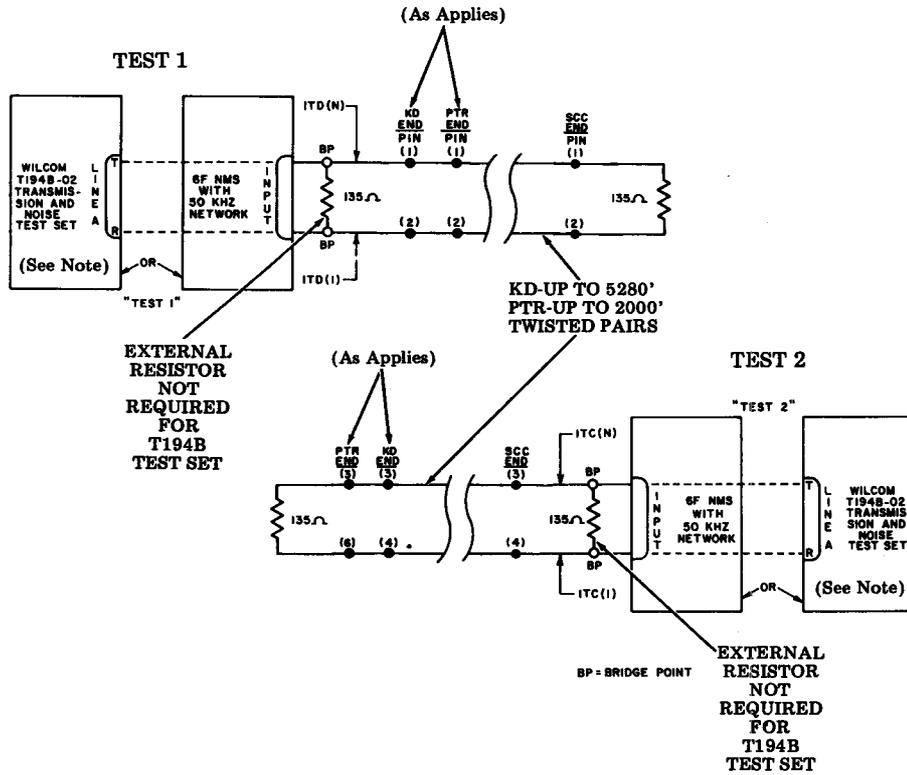

Fig. 19—Noise Measurements
3.26 The Background Noise Tests require either a WILCOM Transmission and Noise Test Set or a 6F Voiceband Noise Measuring set and one or two 135 ohm resistors. Connect the test set as shown in "Test 1" of Fig. 19. Perform the tests in Table F. The cable passes the Background Noise Level Tests if the readings are lower than 45 dBrn.
(1) Set FUNCTION switch to SEND B/REC A position (however, sending on B is not intended). (2) Set WEIGHTING switch to 50KHz position. (3) Set RECEIVE IMPEDANCE switch to 135 position. (4) Set BRDG/TERM switch to TERM position. (5) Set 1004 Hz notch switch to OUT position. (6) Set NORMAL/DAMP switch to NORMAL position. (Exception: Under severely fluctuating noise condition, set to DAMP.) (7) Turn down send level (to avoid false reading) then adjust RECEIVE LEVEL switches for a meter reading near 0 dB on the scale. (Level may be so low that switch adjustments cannot permit an on-scale meter reading.) (8) Read the background noise level by adding the RECEIVE LEVEL Switch settings (using the inner (black) scale) and the meter reading. (9) Connect the test set as shown in "TEST 2" of Fig. 19. Again perform Steps 1a(7) and 1a(8).
(1) Set the Counter Separation switch to the 2 dB position. (2) Set the Function switch to CAL-CTR-BAT and turn the power switch on. (3) Verify that the meter indicates in the BAT GOOD area. Replace batteries that do not have good indication. (4) Adjust the Counter 1 CAL control until the associated counter just counts (the count will be erratic when properly adjusted). (5) Adjust the Counter 2, 3, and 4 controls by depressing the associated push button switch and adjusting the CAL control until the counter just counts as in Step 1b(4). During calibration, only one counter will operate at a time. (6) Set the FUNCTION switch to CAL-MTR and adjust the meter CAL control for a meter indication at the CAL marking. (7) Set the function switch to 600 ohm bridging. Adjust the dBrn dial to obtain a meter reading in the upper half of the meter scale. (8) The background noise level is the sum of the dBrn dial setting and the meter reading. (9) Connect the test set as shown in "Test 2" of Fig. 19. Again perform Steps 1b(7) and 1b(8).
3.27 The Impulse Noise Tests require either a WILCOM T194B Transmission and Noise Test or a 6F Voiceband Noise Measuring Set, and one or two 135 ohm resistors. Connect the test set as shown in "Test 1" of Fig. 19. Perform the tests in Table G. The cable passes the test if "Test 1" (or "Test 2") results in a count of 1 or less.
(1) Set up test set as instructed in Steps 1a(1) through 1a(6) of Table F. (2) Set RECEIVE LEVEL switches using the inner (Black) scale to 65 dBrn. (3) Set DISPLAY switch to IMPULSE COUNT position. (4) Set IMPULSE COUNT TIME MINUTES to 30 position. (5) With COUNTING lamp lit, run the test for 30 minutes. (6) When COUNTING lamp turns off and COUNT COMPLETE lamp turns on, take a reading. (7) Set DISPLAY switch to SEND Hz position and back to IMPULSE COUNT position. (This resets a digital display to zero.) (8) Connect the test set as shown in "TEST 2" of Fig. 19. Run test as directed in Steps 5 and 6 of 1a.
(1) Set up and calibrate the 6F Voice Band Noise Measuring Set as instructed in Step 1b of Table F. (2) Set the function switch to 600 ohm bridging. Adjust the impulse noise threshold to 65 dBrn by setting the dBrn dial to 35. Reset the counter to 00, (3) After resetting the counter, run the test for 30 minutes and take a reading. (4) Connect the test set as shown in "Test 2" of Fig. 19. Run test as directed in Steps 1, 2 and 3 of 1b.